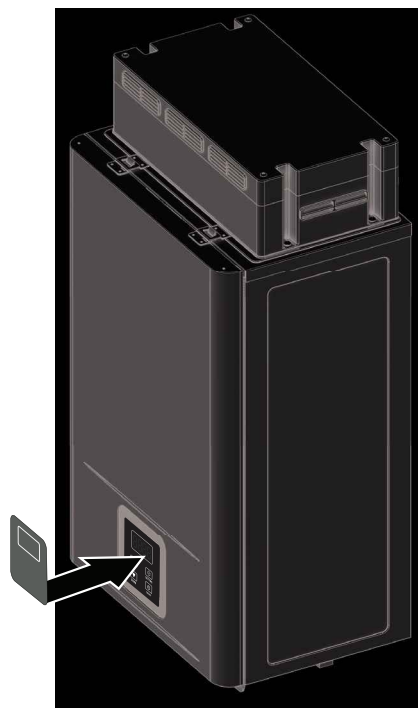

Figure 33 - Install UIM Overlay
- 3 Once the outdoor vent cap is secured to the water heater, install the UIM overlay to the digital display to protect it from hazardous weather conditions and accidental control adjustments (Figure 33).